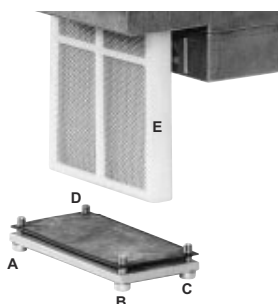

Fig. 60
- 2 Remove screws 1 ÷ 6 (Fig. 60).